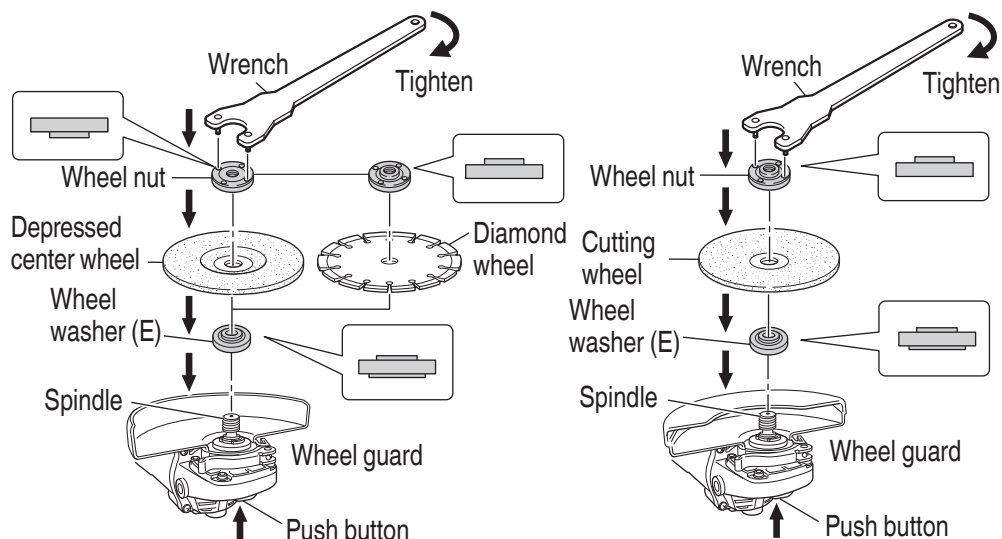

Fig. 13
- Align the across flats of the wheel washer (E) with the notched part of the spindle, then attach them.
- Fit the protuberance of the depressed center wheel onto the wheel washer (E).
- Tighten the wheel nut by using the supplied wrench as shown in **Fig. 13**.